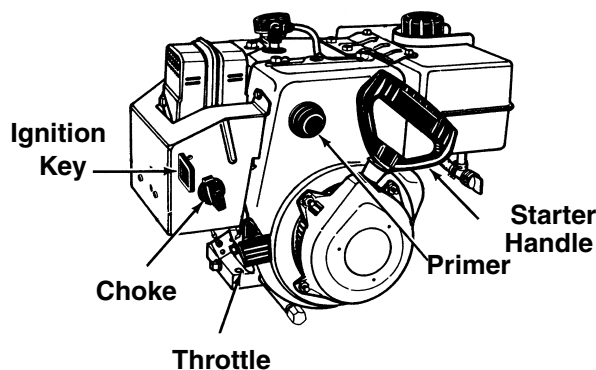

Figure 19
4. Move throttle control up to FAST position. Insert ignition key into slot. See Figure 19. Be certain it snaps into place. **Do not** turn key.
8. **Recoil Start Only:** Push primer button two or three times. If engine is warm, push primer button once only. See Figure 19.
Recoil Start: Grasp starter handle (see Figure 19) and pull rope out slowly, until it pulls slightly harder. Let rope rewind slowly. Pull starter handle rapidly. Do not allow handle to snap back. Allow it to rewind slowly while keeping a firm hold on the starter handle.